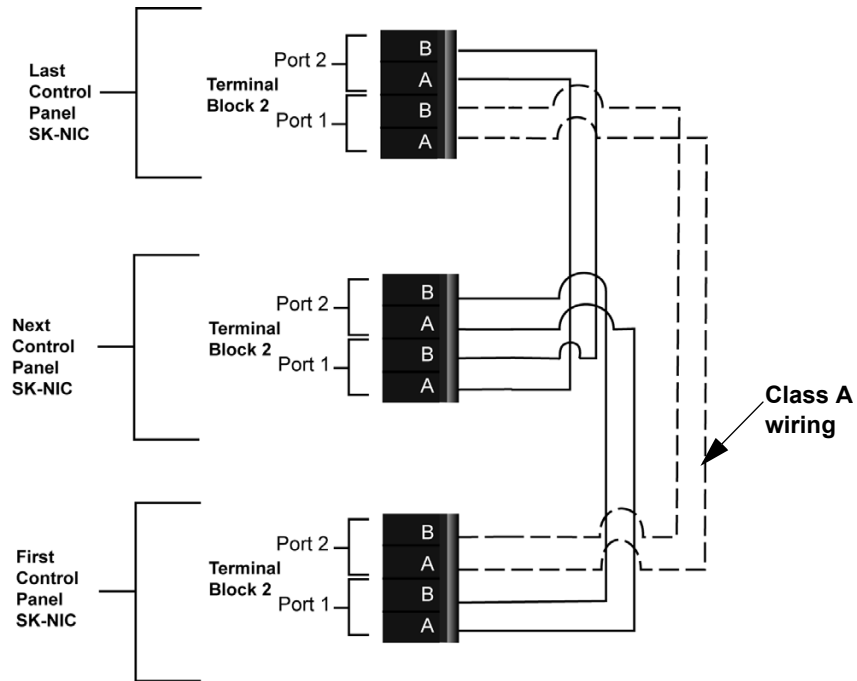
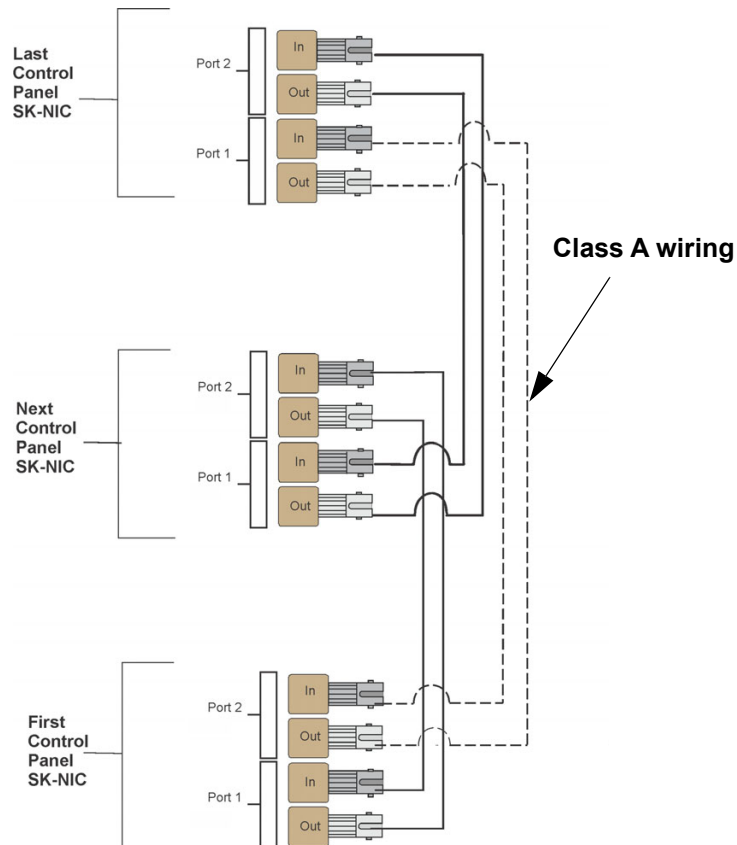
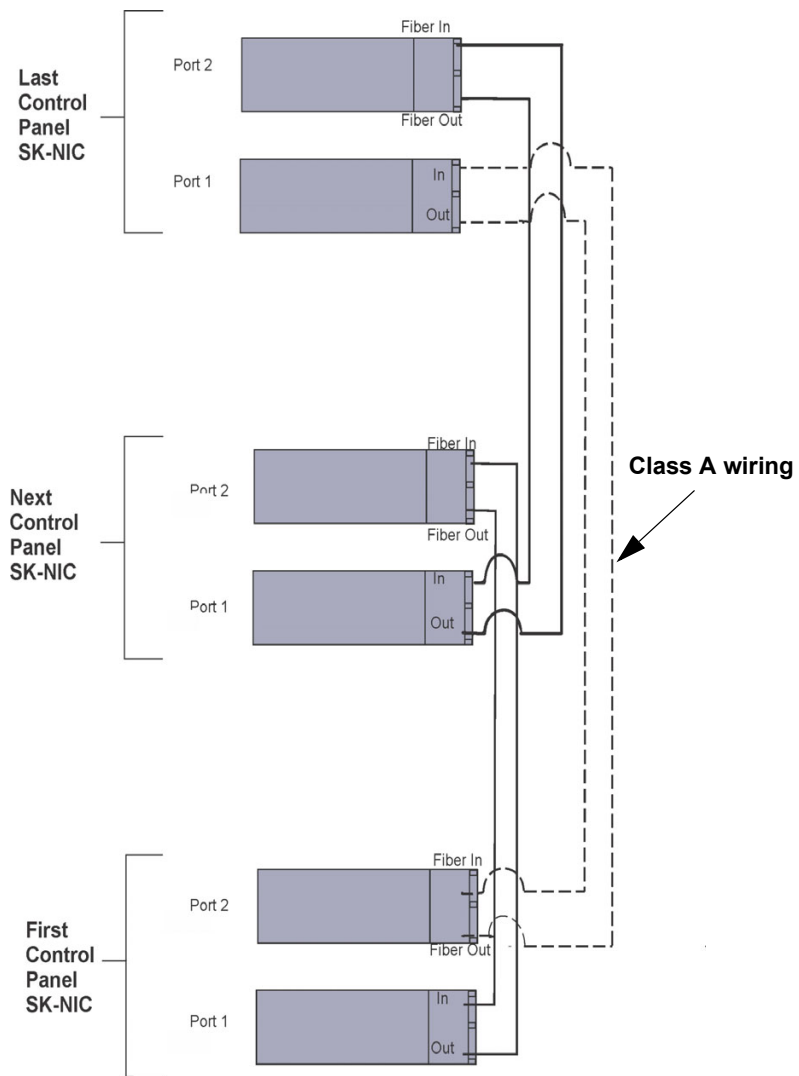
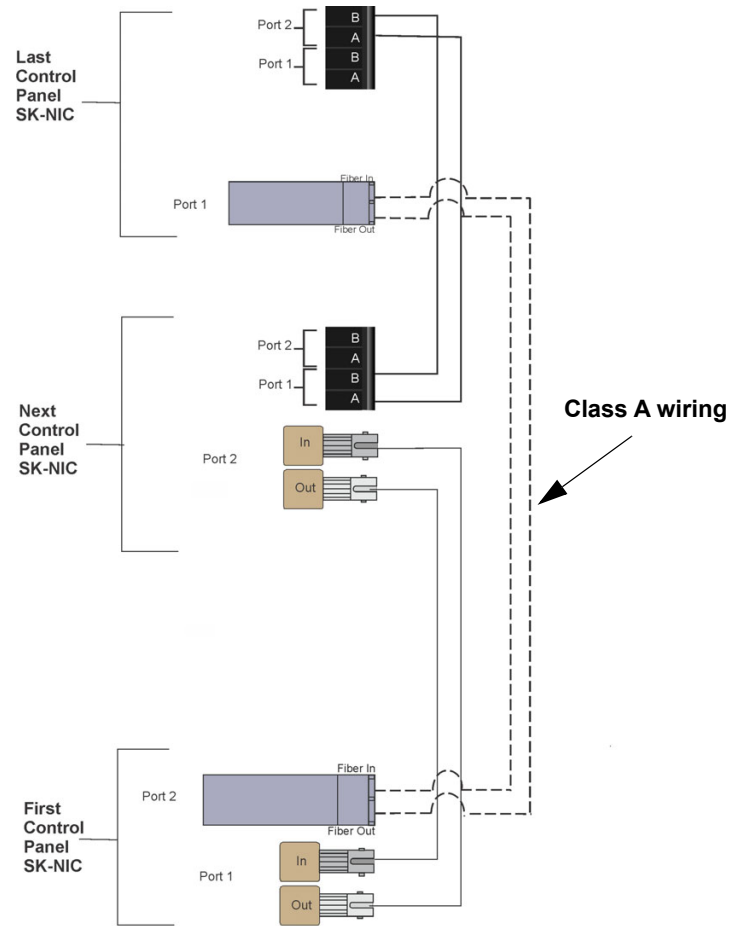

Figure 5.7 Twisted Pair Wiring Configuration
Figure 5.8 Fiber Optic Wiring Multi-Mode Example
Figure 5.9 Fiber Optic Wiring Single-Mode Example
Figure 5.10 Twisted Pair and Fiber Optic Combination Wiring Example
5. Based on the type of data medium chosen, run the twisted pair wiring/fiber optic cable to the next SK-NIC using a class B or class A wiring method. A combination of both medium types can be used. See Figure 5.7, Figure 5.8, Figure 5.9, and Figure 5.10 for SK-NIC wiring examples.
Unshielded twisted pair wiring between multiple panels is shown in Figure 5.7. Class A wiring is shown with a dotted line.
Fiber optic cable between multiple panels is shown in Figure 5.8. Class A is shown with a dotted line.
A mixture of fiber optic cable and twisted pair wiring between multiple panels is shown in Figure 5.10. Class A cabling is shown with dotted line.